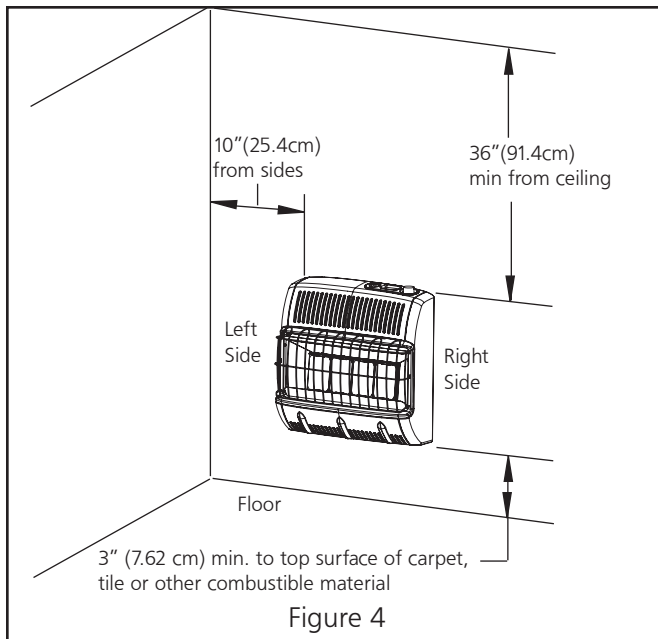

Figure 4
**⚠️ WARNING:** Heater must be mounted to maintain the minimum clearances shown in Figure 4. If possible, provide greater clearances from the floor, ceiling, and joining walls.